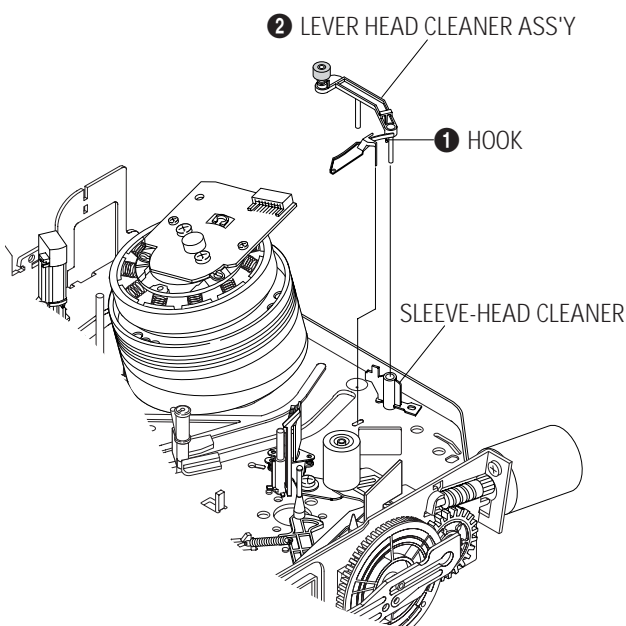

Fig. 4-42 Lever Head Cleaner Ass'y Removal
- 3) Rotate Gear Worm ❶ clockwise using screw driver again up to the state of eject mode and then pick out the tape. (Refer to Fig.4-42)